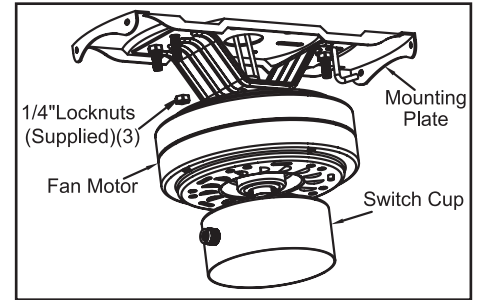
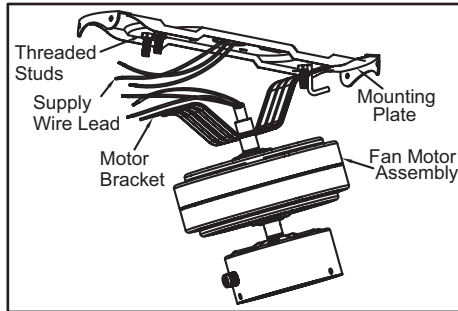

Figure 6
Figure 5
2. Carefully lift the fan motor assembly and engage the slot in the motor bracket with the hook on the mounting plate so that it is securely suspended (Figure 5). Then connect the wiring to your fan according to the section “Making the Electrical Connections”.
3. Once wiring is completed, lift the motor bracket so that the threaded studs on the mounting plate protrude through the slots in the motor bracket (Figure 5). Securely tighten the three 1/4” locknuts (supplied) onto the threaded studs, then try to shake the motor bracket to ensure that the assembly is tight (Figure 6).